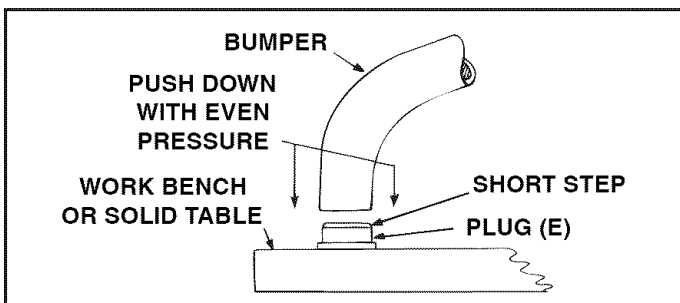

FIGURE 4
STEP 3: (SEE FIGURE 4)
- Place plug (E) on a work bench or solid table and push end of bumper down onto plug. Repeat for second plug.